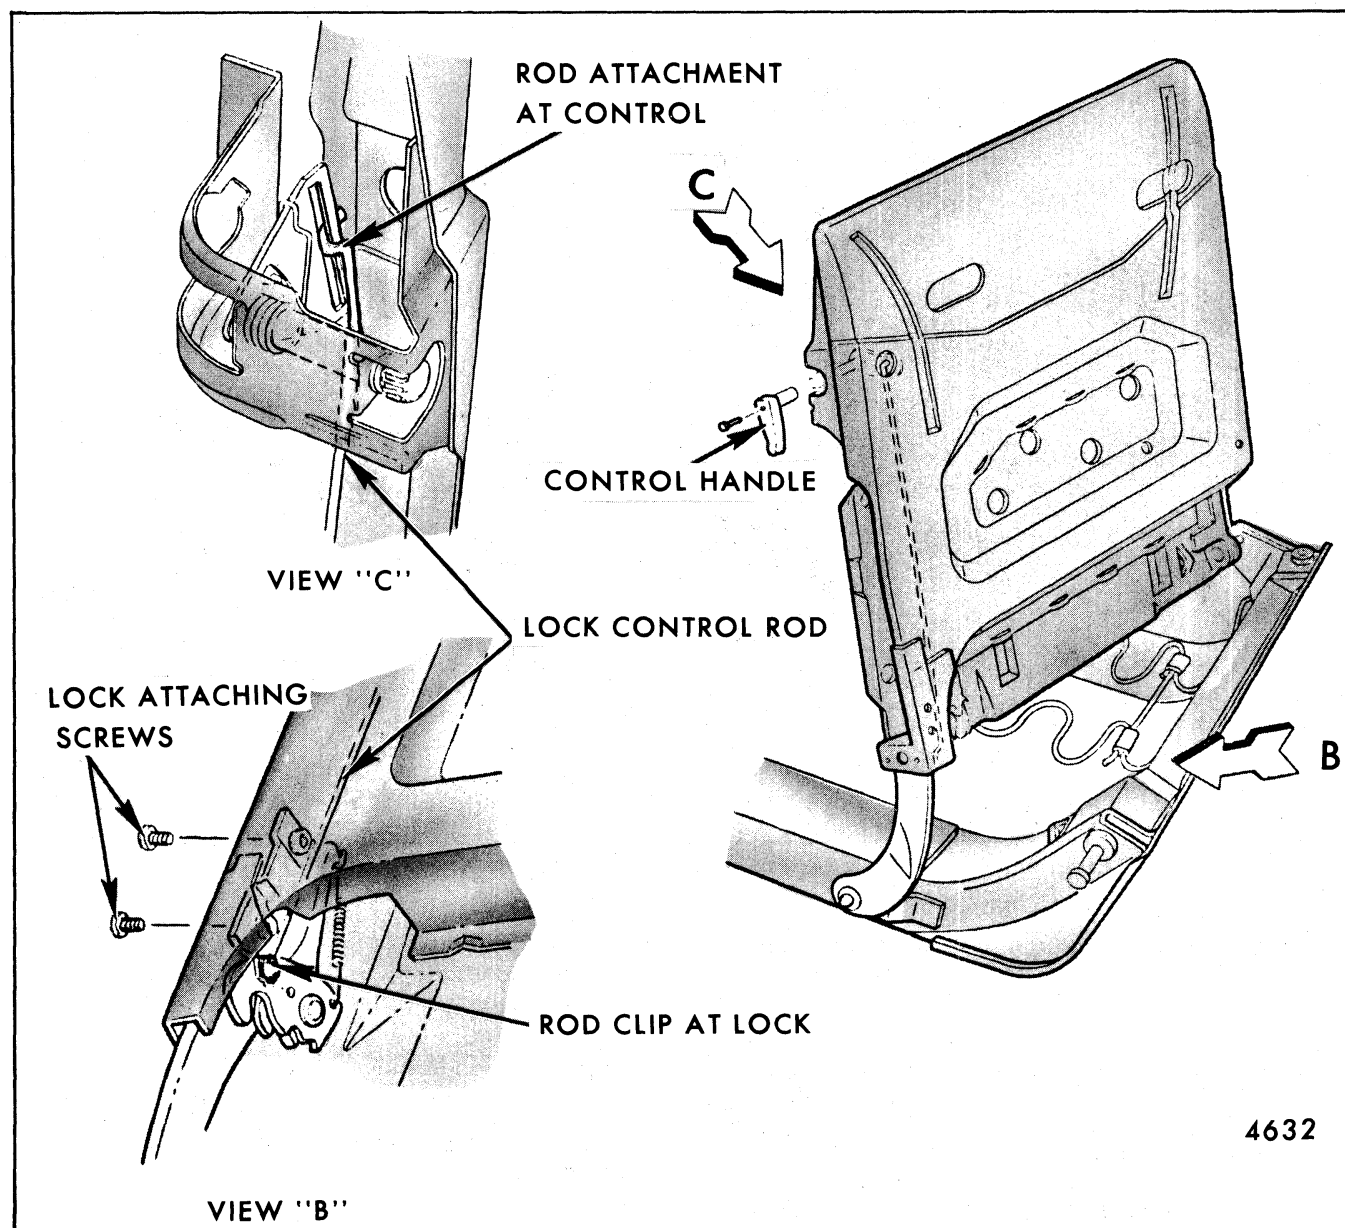
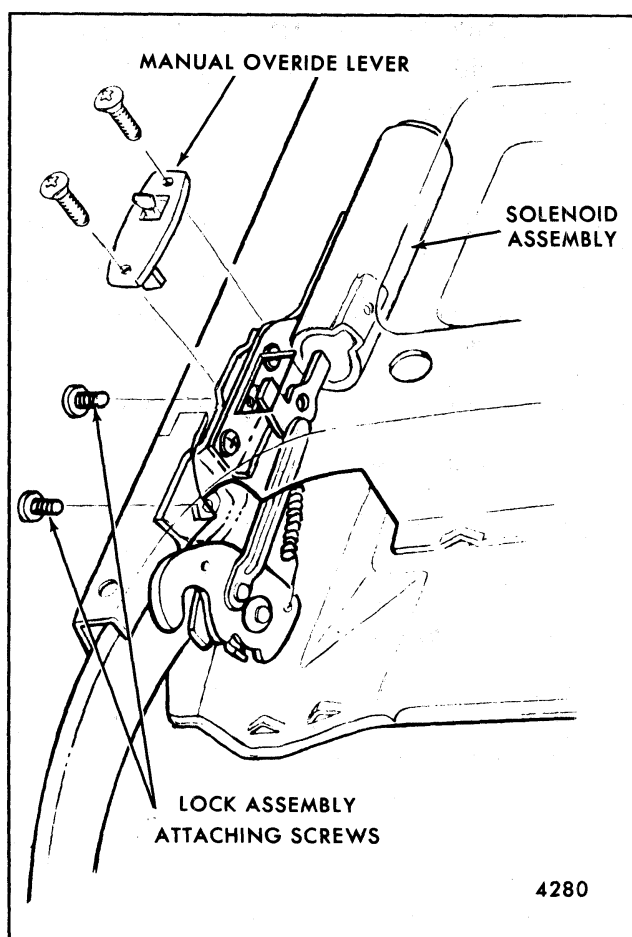

Fig. 9-52-Front Seat Back Manually Operated Lock - "B, C and E" Two-Door Styles, Full Width, 60-40 or 40-40 Seats
Fig. 9-53-Front Seat Back Electrically Operated Lock - "A, B and C" Two-Door Styles, Standard Full Width Seat
- Remove hog rings securing seat back front and rear trim facings and foam pad facing along bottom of seat back; then turn up trim and carefully pull out foam pad sufficiently to gain access to lock attaching bolts (Fig. 9-52 or 9-53).
- On manually operated seat back lock, disengage lock connecting rod clip (Fig. 9-52) and detach
- Remove seat back lock attaching bolts (Fig. 9-52 for manual lock, Fig. 9-53 for electric lock); then remove lock assembly from seat back.
4. To remove seat back lock to control connecting rod, disengage rod clip at lock (Fig. 9-52, View "B"); then rotate rod counterclockwise on driver's seat back or clockwise on passenger's seat back to disengage hooked upper end of rod from slot in control plate and remove connecting rod (see Fig. 9-52).